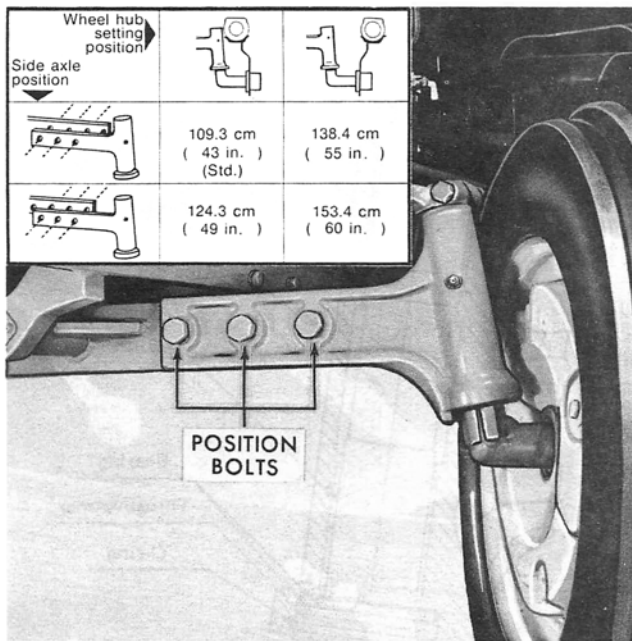

Figure 8
The front wheel tread setting is adjustable from 109.3-153.4 cm (43.3 - 60.4 in.) in approximately 15.2 cm (5.98 in.) increments by a combination of re-positioning the front axle and reversing the front wheels. See Figure 8. To re-position the front axle:
3. Remove the positioning bolts, Figure 8, and move the axle sections in or out until the desired setting is obtained, then reinstall the positioning bolts.